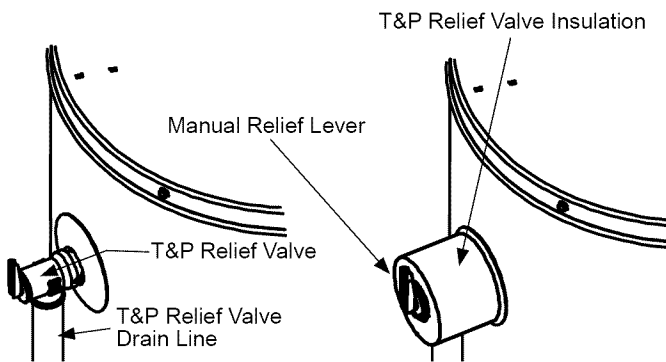

FIGURE 9.
1. Locate the temperature and pressure relief valve on the water heater (also known as a T&P relief valve). See Figure 9.
3. Spread the slit open and fit the insulation over the T&P relief valve. See Figure 9. Apply gentle pressure to the insulation to ensure that it is fully seated on the T&P Relief Valve. Once seated, secure the insulation with duct tape, electrical tape, or equivalent. **IMPORTANT:** The insulation and tape must not
block the discharge opening or hinder access to the manual relief lever (Figure 9). Ensure a discharge pipe is installed into the T&P valve discharge opening per the instructions in this manual.